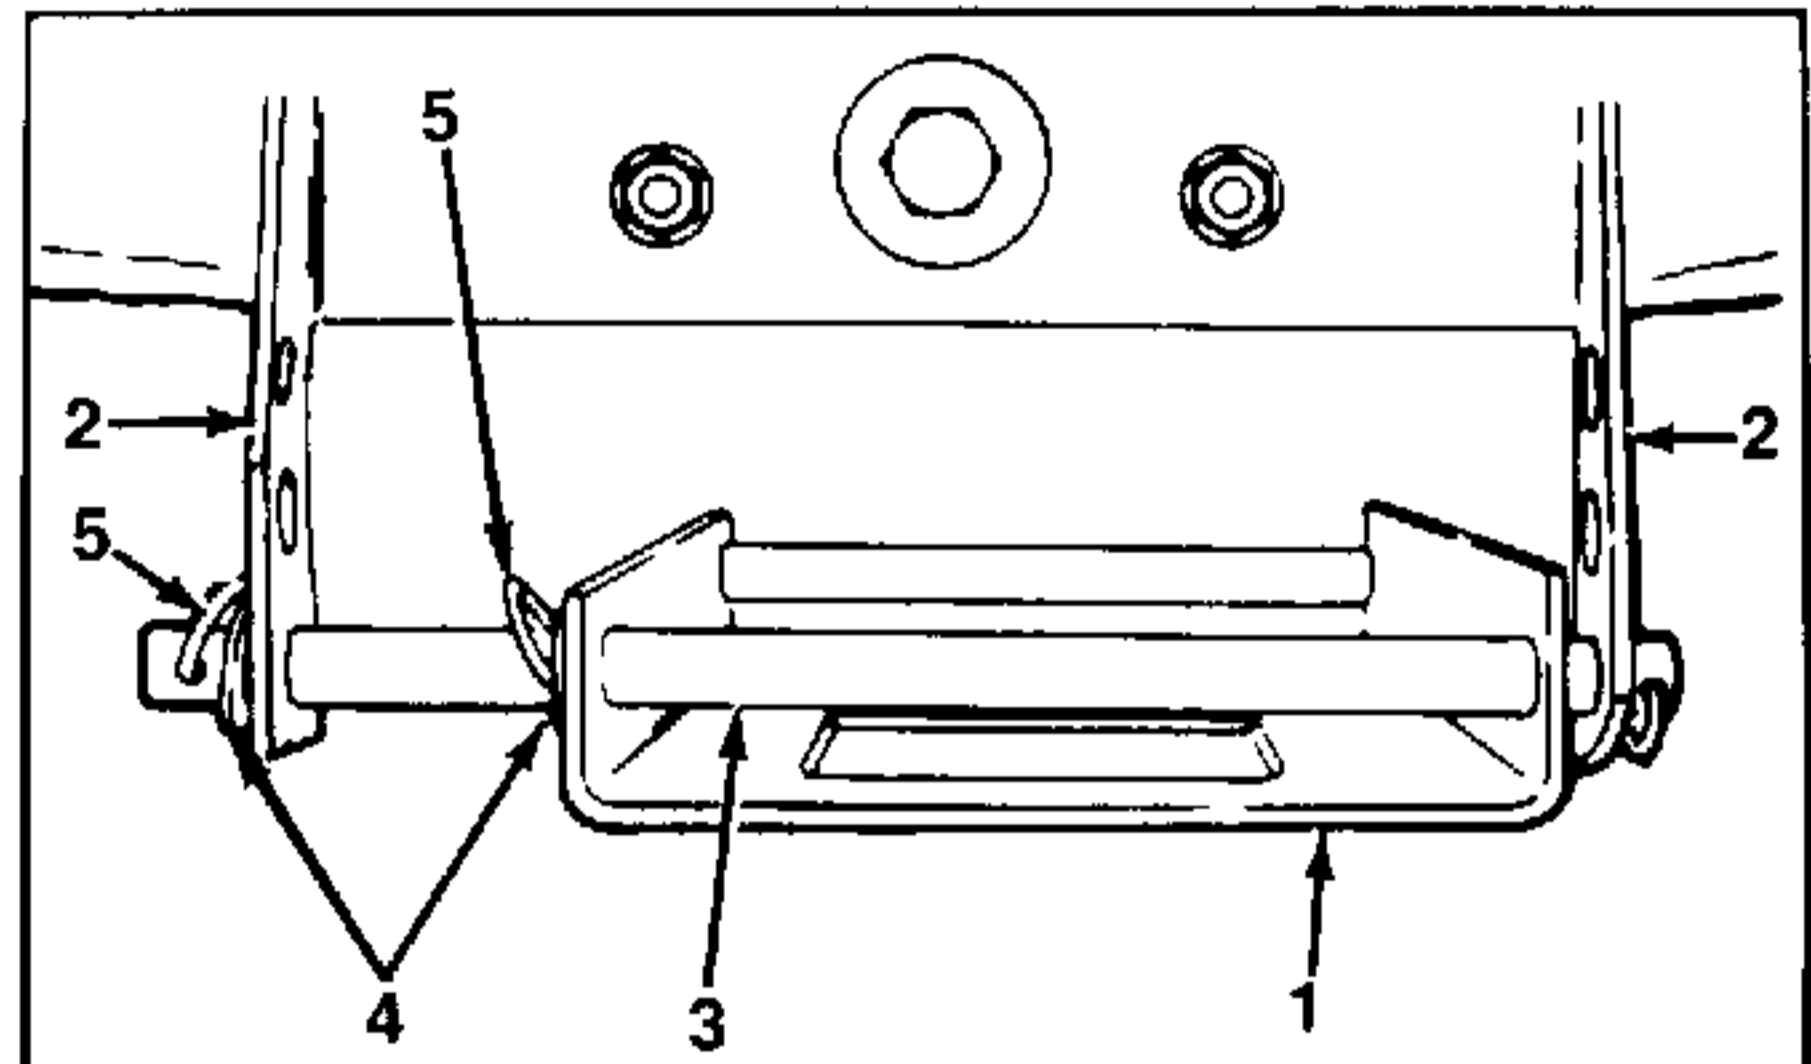

FIGURE 9.
- With the left front wheel turned to the left, attach the front hanger assembly to the front hanger bracket by passing the tractor hanger rod through the bottom mounting holes of the front hanger bracket. Remember to attach the central flat washer to the rod after it passes through the right side of the front hanger assembly. Refer to figure 9. Secure the tractor hanger rod with flat washer and hairpin cotteners.